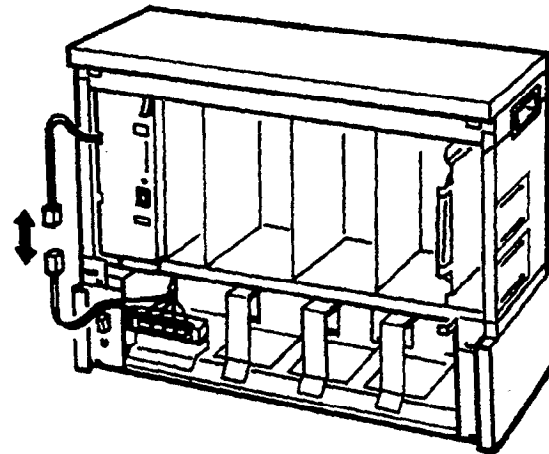

Figure 3-55 Connecting the PSF-P-20 PSU to the Terminal Board
2. Connect the PSU cord to the terminal board. Refer to Figure 3-55 - Connecting the PSF-P-20 PSU to the Terminal Board.